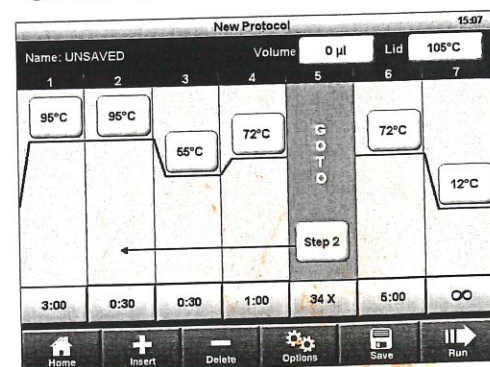

Fig. 3. New Protocol screen showing graphical view of a protocol.
2. The New Protocol screen displays a graphical view of the protocol (Figure 3). Edit the value of any of the following parameters by touching the corresponding field: